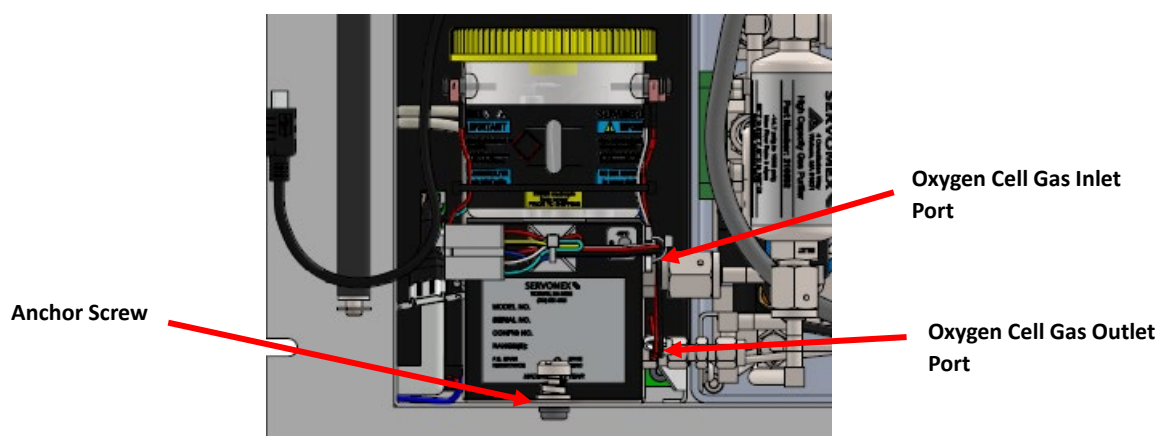

Figure 155 Oxygen Cell Removal
2. Disconnect three electrical connectors (one white, two black). Refer to **Figure 155.**